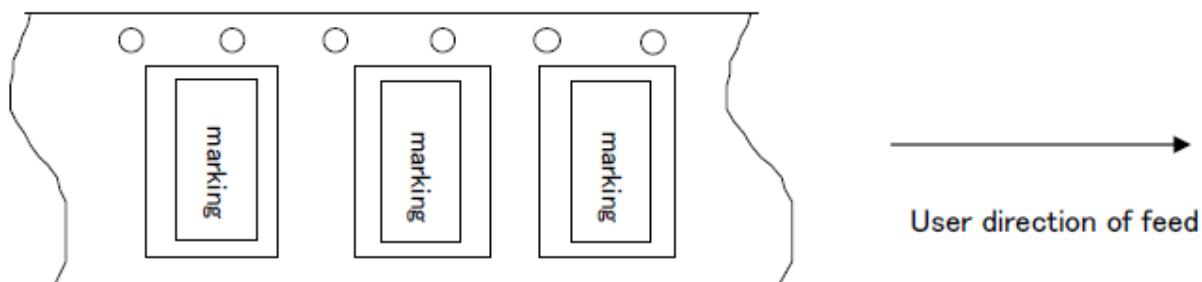

Fig. 1
- (1) Taping shall be placed in tapes in such manner as to assure that marking of the components is visible as per Fig.1